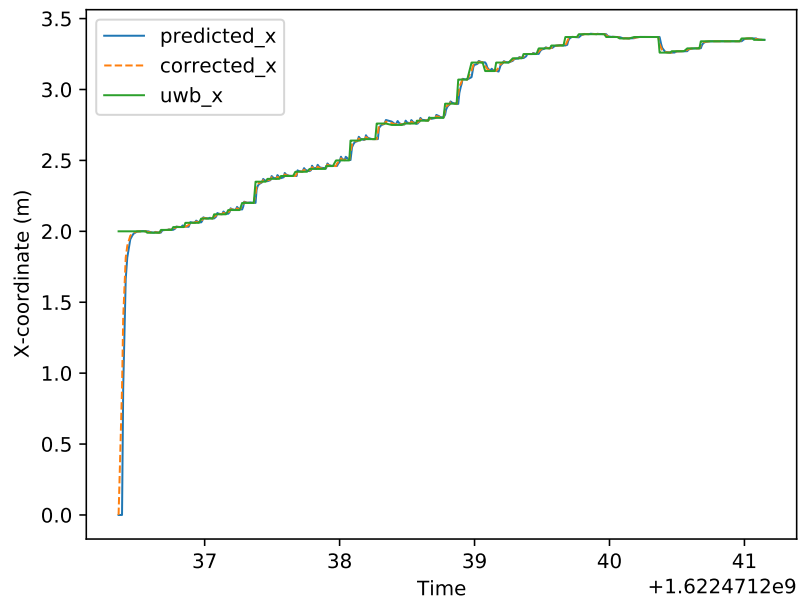

Figure 5: Plot from script *kfMergePlot.py*
1. let the robot move forward 1m, as shown in Figure 5 and 6